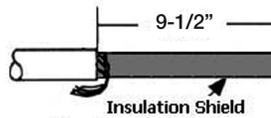

Fig. 3 - Cut Cable
- C. Cut the excess cable off square and even with the center line of the bushing. See Figure 3.